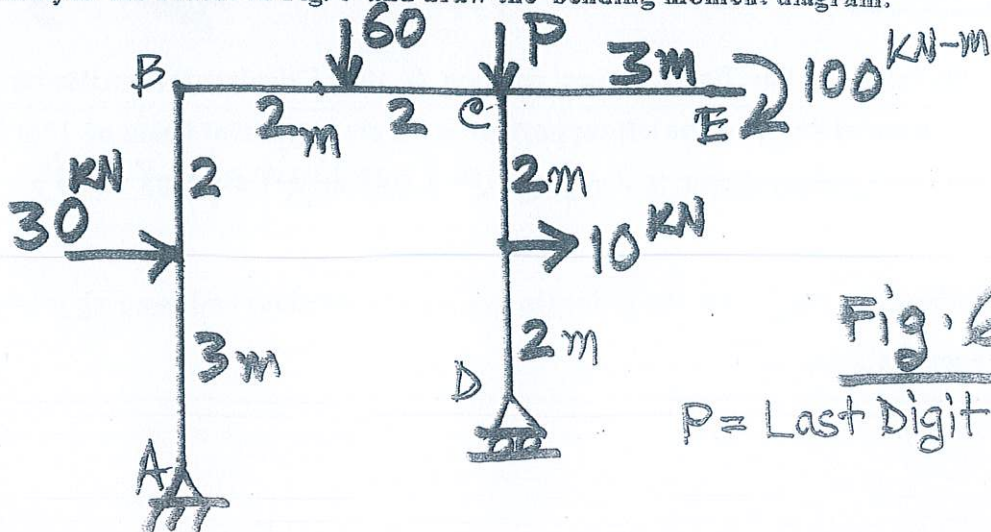

Fig. 6
8. Analyze the Frame in Fig. 6 and draw the bending moment diagram. (12)